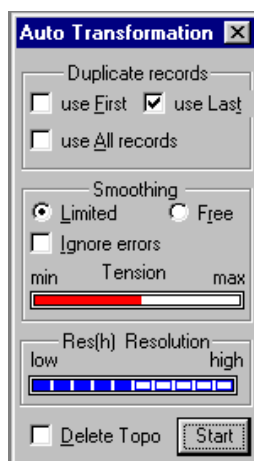

Fig. 5
**Auto Transformation button** intended to launch the system of auto construction of pseudo -sections (see the section “smoothing the data”). Before the beginning of this procedure it is necessary to set a number of parameters (Fig. 5)